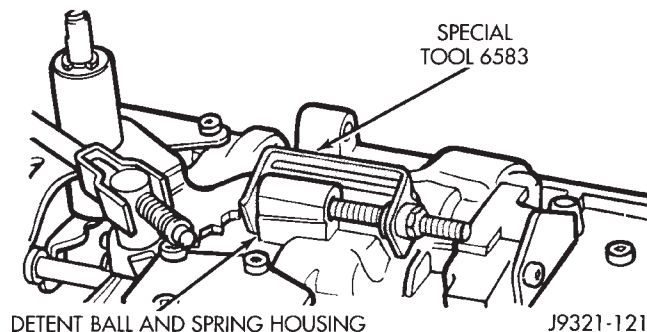

Fig. 92 Securing Detent Ball And Spring
- (3) Secure detent ball and spring with Retainer Tool 6583 (Fig. 92).